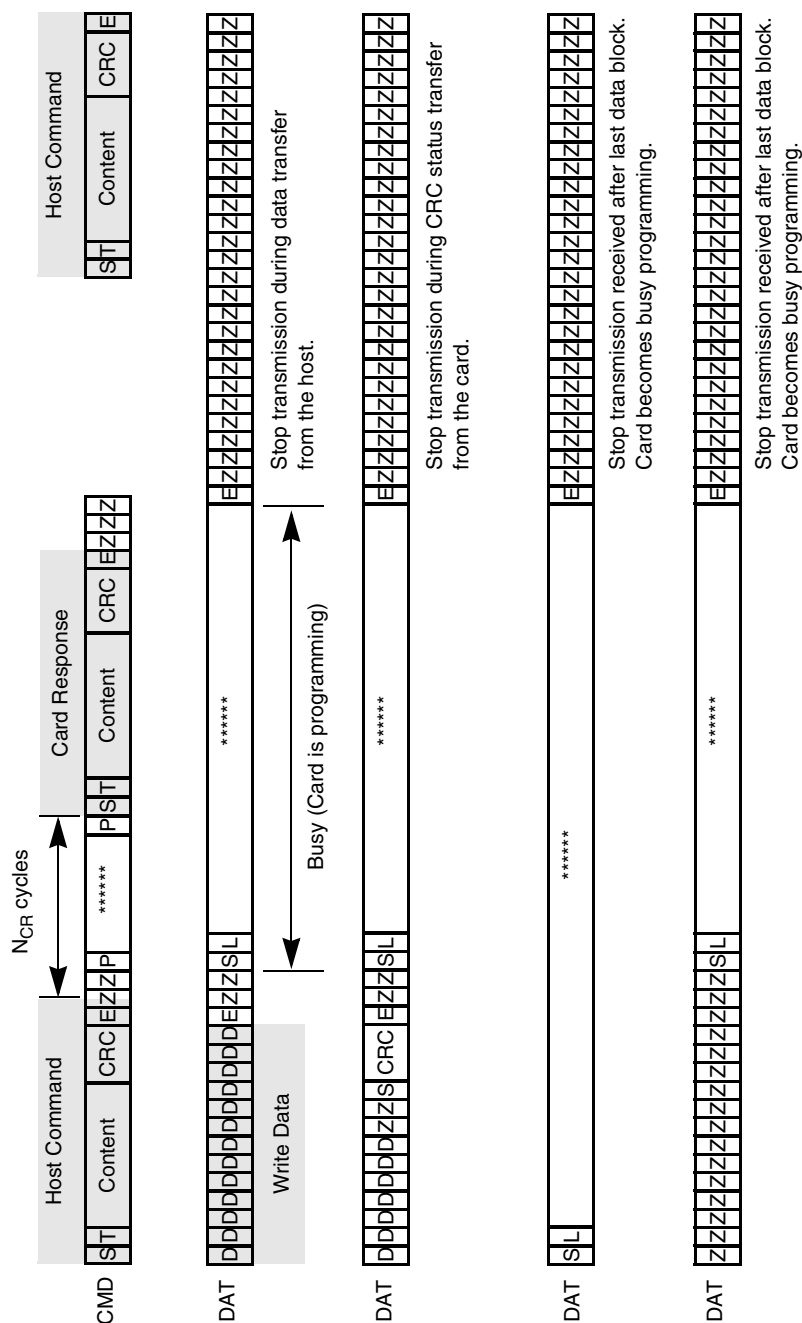

Figure 43. Stop Transmission During Different Scenarios
The card identification and card operation conditions timing are processed in open-drain mode. The card response to the host command starts after exactly  $N_{ID}$  clock cycles. For the card address assignment, SET\_RCA is also processed in the open-drain mode. The minimum delay between the host command and card response is  $N_{CR}$  clock cycles as illustrated in Figure 39. The symbols for Figure 39 through Figure 43 are defined in Table 19.
**Table 19. State Signal Parameters for Figure 39 through Figure 43**
The stop transmission command may occur when the card is in different states. Figure 43 shows the different scenarios on the bus.
Table 20. Timing Values for Figure 39 through Figure 43